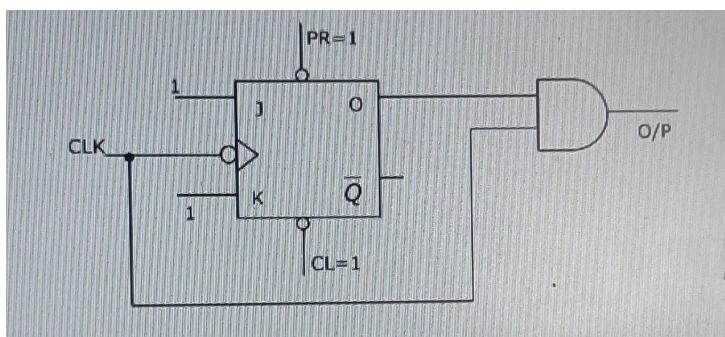

Fig. 5.27
27. The digital circuit shown in Fig. 5.27 generates a modified clockpulse at the output. Sketch the output waveform.